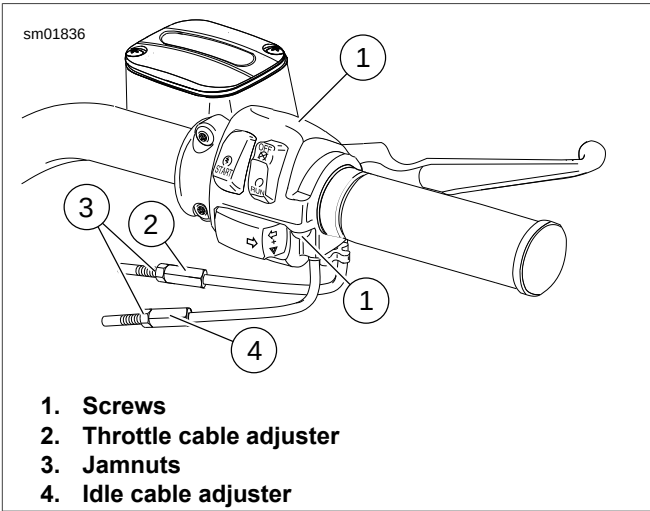

Figure 1-24. Throttle Cable Adjusters
1. See Figure 1-24. Turn the cable adjusters (2, 4) and jam-nuts (3) as short as they will go.
2. Remove two screws (1) to separate the upper handlebar housing from the lower housing.
9. Assemble the handlebar housing and tighten both screws (1) to 4.0-5.1 Nm (35-45 in-lbs).
1. See Figure 1-24. Turn the cable adjusters (2, 4) and jam-nuts (3) as short as they will go. Both cables should have zero adjustment at the start of this procedure.
- b. Turn the throttle cable adjuster (2), lengthening the sleeve, until the throttle cam just touches the cam stop.
- c. Tighten the throttle cable adjuster (2) an additional 1/2-1 full turns.
4. Turn the idle cable adjuster (4), lengthening the sleeve until the cable housing just touches the bottom of the pocket retainer on the throttle body linkage.